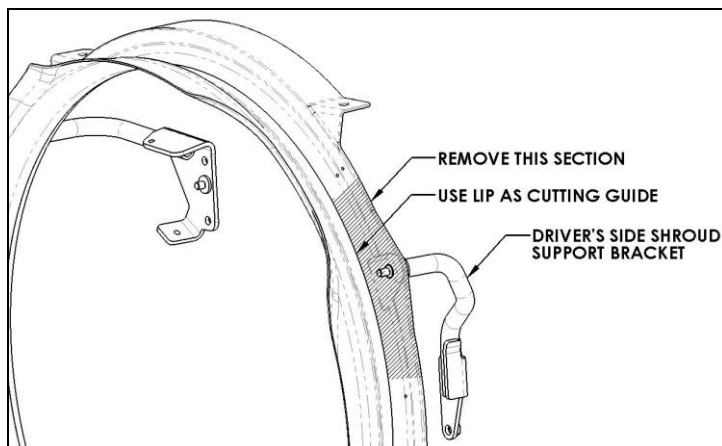

Figure 2.2
- ☐ Cut away the shroud section using the marks made with the template and the raised soft rubber lip as a guide (Figure 2.2).